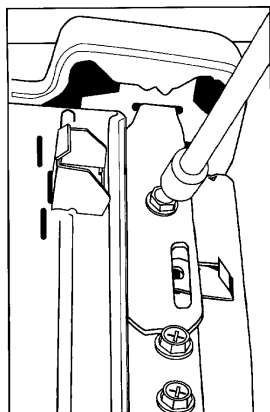

Figure 5-5
3. Remove two 5/16" hex head screws securing the two hold down brackets on the top cover (*Figure 5-5*).